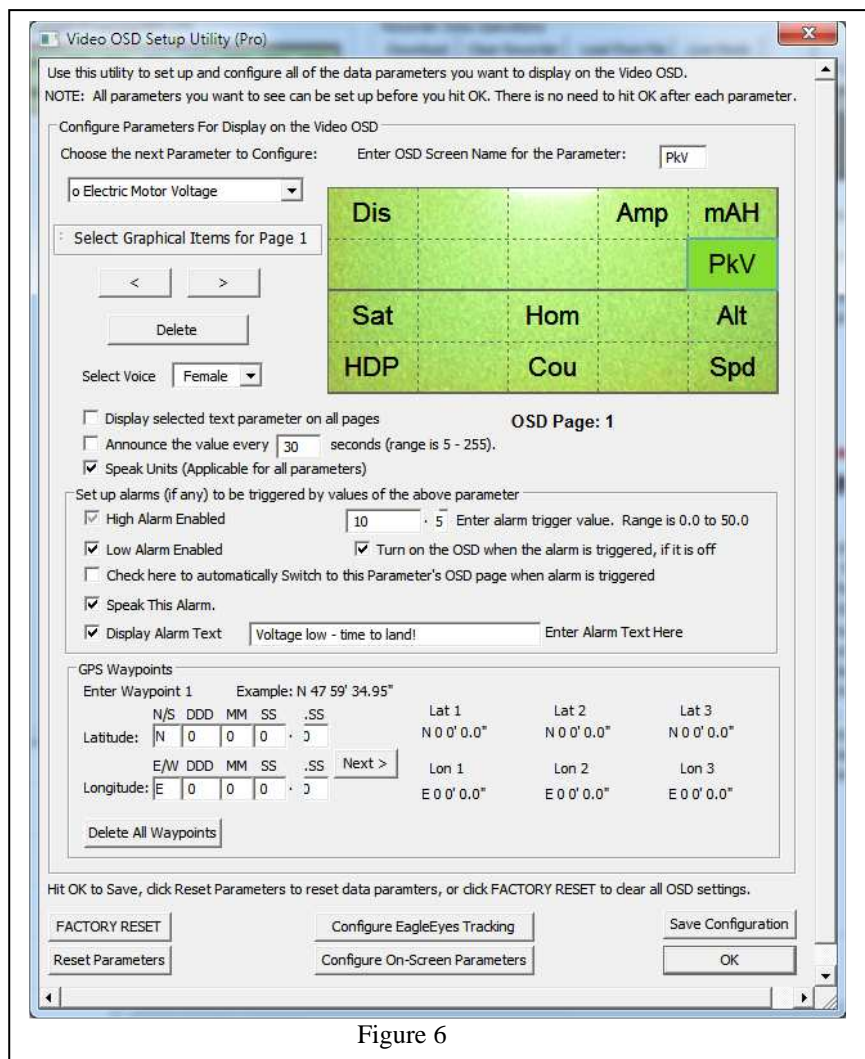

Figure 6
When updating the OSD Pro firmware, after the “Firmware Successfully Completed!!!” message appears, click on the OK button of that message. Then, after a few seconds, the OSD Pro setup page (as shown in Figure 6) will appear. Note that you will need to click OK on the setup page to finalize OSD Pro firmware update. If you do not click OK on this page, you will be prompted to update the OSD Pro firmware again later.
Also, before installing a new software version, it’s a good idea to save your OSD Pro configuration using the button shown in Figure 6 BEFORE installing the new software version, and then loading the configuration again by clicking “File, Load Configuration File” AFTER you have installed the new software version, and completed the OSD Pro firmware update if prompted to do so.
Software configuration of the OSD Pro is done via the OSD Pro setup page (shown in Figure 6). This page is invoked by clicking “Hardware, Choose Parameters to Display on Video OSD” and the page will also automatically appear after you update the OSD Pro firmware. Note: If the page below does not appear, and an error messages appears instead, please see the troubleshooting section of this manual.
- 3) Optionally, a custom text message can be entered, which will appear on the screen when the alarm triggers. This option is configured by clicking the “Display Alarm Text” checkbox, and typing the custom text in the “Enter Alarm Text Here” area, as shown in Figure 6.
- 6) Click the “Display Alarm Text” checkbox, and type “Battery Almost Dead!!” in the “Enter Alarm Text Here” area, as shown in Figure 6.
To save all of your OSD Pro’s configuration settings, click the “Save Configuration” button. Then, you can later load the configuration again, by clicking “File, Load Configuration File” or clicking the “Load Configuration” button in the OSD setup utility.. Note: Before installing a new software version, it’s a good idea to save your OSD Pro configuration using the button shown in Figure 6 BEFORE installing the new software version, and then loading the configuration again by clicking “File, Load Configuration File” AFTER you have installed the new software version, and completed the OSD Pro firmware update if prompted to do so. You can also use this feature to set up multiple OSD Pros with the same configuration, rather than configuring each one separately.